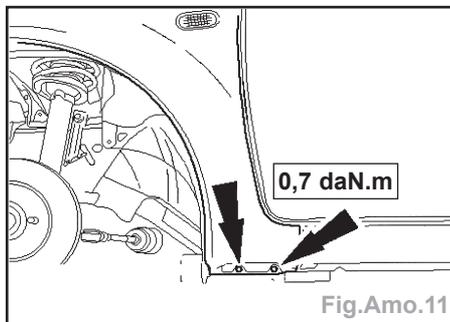

Fig.Amo.11
- les vis (flèches) (Fig.Amo.11),